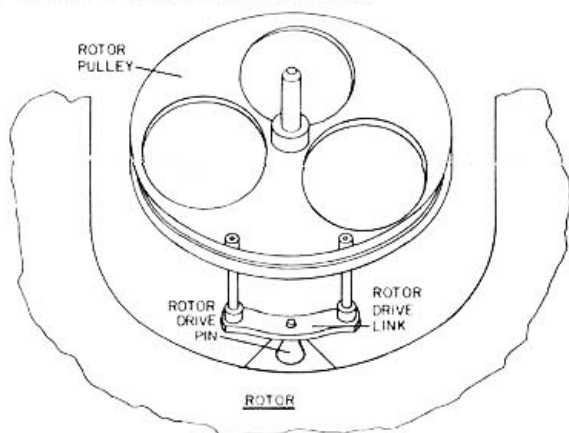

Fig. 10
4. Remove rotor drive link from its rotor drive pin. (See Fig. 10).